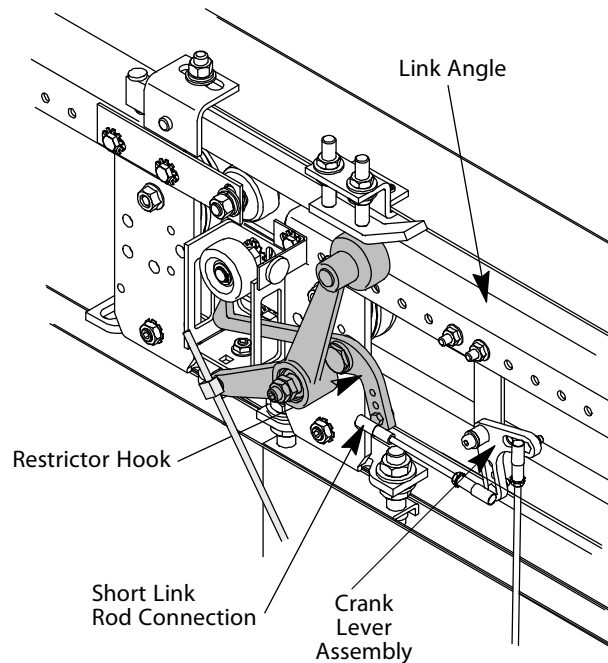

Figure 8 - Attach Short Link Rod Assembly to Restrictor Hook
10. Use a #10 nut and lockwasher to attach the short link rod assembly to the restrictor hook. See Figure 8.